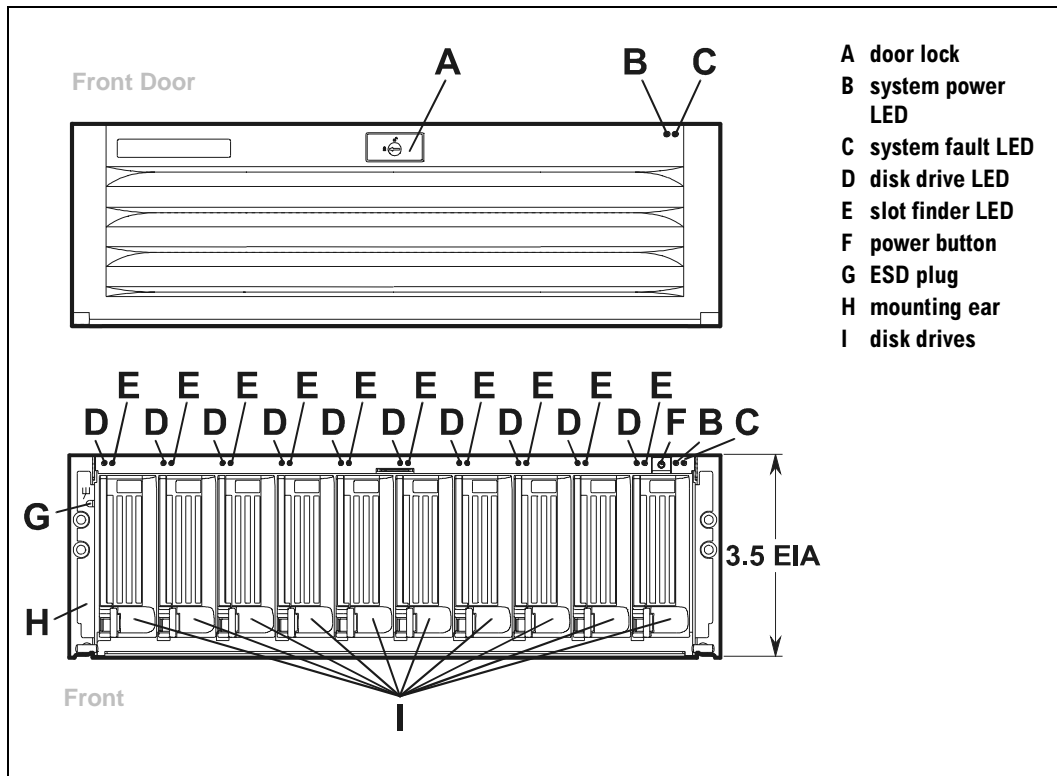
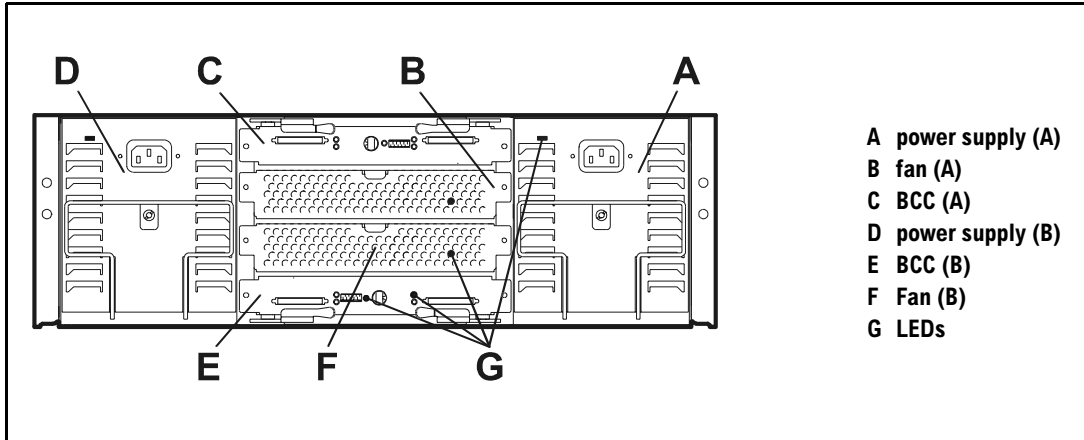

Figure 1 Disk System Front Views
Figure 2 Disk System Back View
The disk system occupies 3.5 EIA units in a standard 19-inch rack. Disk drives mount in the front of the system. Redundant power supplies, fans, and BCCs mount in the back. A lockable front door shields the environment from RFI and provides access to the disk drives and power button. See Figure 1, below, and Figure 2 on page 16.
- The system power LED (B in Figure 1) indicates that power is on or off.
- The system fault LED (C in Figure 1) indicates whether or not a fault has occurred anywhere in the disk system.
- Above each disk slot, the left LED (D in Figure 1) indicates the presence of I/O activity on the disk.
- The second LED above each disk slot (E in Figure 1) can be flashed to help a service engineer locate the disk for physical inspection or removal.
LEDs (G in Figure 2) on the back of the disk system indicate the status of replaceable components and the configuration of the SCSI bus: See chapter 4, Troubleshooting, for specific LED information.
Located in the upper right corner behind the disk system door, the power switch (F in Figure 1) interrupts power from the power supplies to the BCCs and other internal components. Power to the power supplies is controlled by the power cords and the AC source.